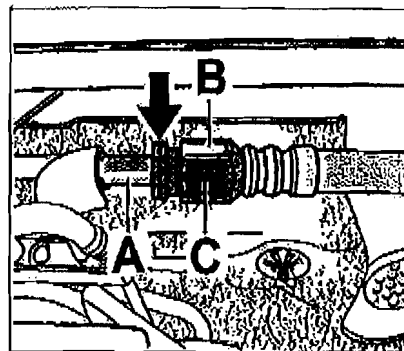

Figure 5
Figure 5 shows the position of the old marking ⇒ Figure 5 -B- and the new marking ⇒ Figure 5 -C- on the hexagon on the fitted fuel line.
4.6 Position the fuel line at the connection point in such a way that the new (black) marking on the hexagon ⇒ Figure 5 -C- is aligned with the marking on the connection point ⇒ Figure 5 -A-.
4.7 Screw on the fuel line at the connection point ⇒ Figure 5 -arrow- and tighten it. Counter at the hexagon on the fuel line while tightening. **Tightening torque 35 Nm (26 ftlb.)**